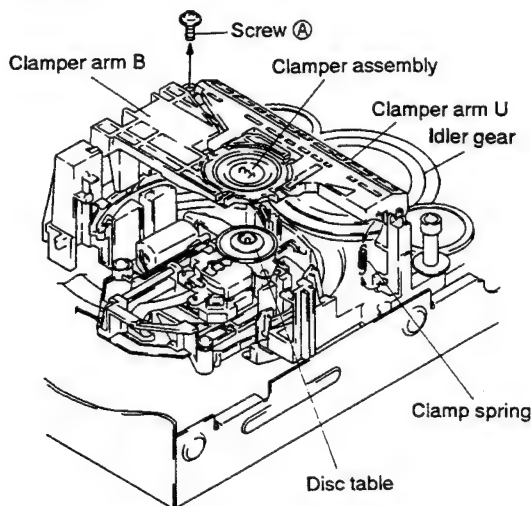

Fig. 1-4
- (1) As shown in Fig. 1-4, rotate the idler gear so that the clamber assembly not to be clamped on the disc table. Next, take out the clamp spring and the screw ①, and remove the clamber arm U and B.